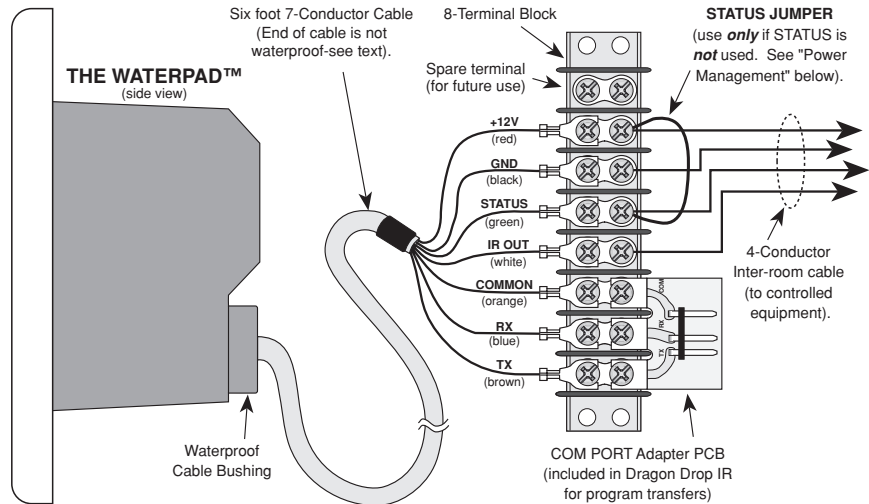
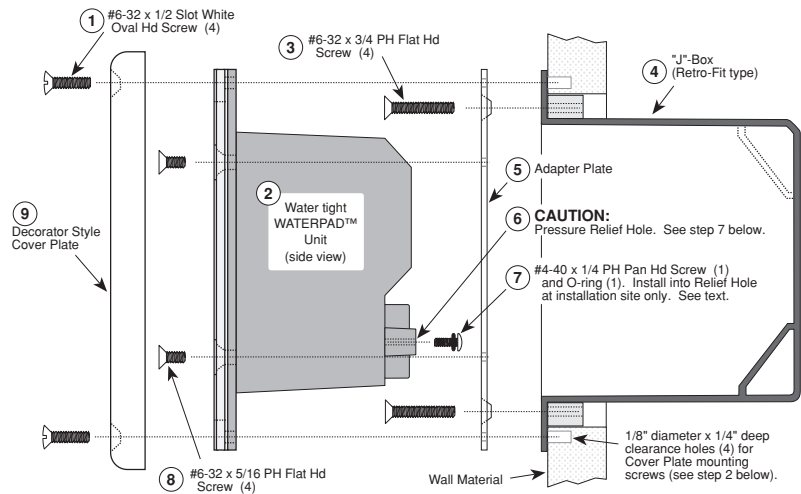

**Fig. 4** Icon Application
Fig. 6 Mounting the Waterpad into a Retrofit type J-box.
9. If the system functions correctly, the button icons can then be applied, as shown in Fig. 4. Finally, the Waterpad is mounted to the wall as shown in Fig. 6, 7, 8 & 9.
2. Align it very carefully within the rectangular embossed button area on the membrane of the Waterpad and press it into place. See **Fig. 4**.
To mount the Waterpad using a retrofit J-box, refer to Fig. 6 and proceed as follows:
1. Temporarily mount or hold the J-box ④ to the wall opening.
2. Using the Adapter Plate ⑤ (supplied) as a template, mark, then drill four 1/8" x 1/4" holes in the wall material to allow clearance for the ends of the #6-32 x 1/2" cover plate screws ①. This allows the cover plate to be pulled down flush to the wall in step 9. See Figs. 6 & 8.
3. Thread the 6-foot cable from the Waterpad through the Adapter Plate ⑤ and through a knockout hole in the back of the J-box ④.
5. Attach the J-box ④ to the wall.
6. Attach the Adapter Plate ⑤ to the J-box ④ using the four #6-32 x 3/4" Flat Hd screws ③ (supplied).
7. Install the #4-40 x 1/4" Pan Hd screw and O-ring ⑦ (supplied) into the Pressure Relief Hole ⑥. Tighten until you see some compression of the O-ring.
**CAUTION:** A Pressure Relief Hole ⑥ is provided to prevent the buildup of internal pressure that could damage the membrane during storage and shipping conditions. When the Waterpad is installed at the final site, however, **the screw and O-ring must be installed prior to exposure to moisture! Failure to do so will void the warranty!**
8. Using the four #6-32 x 5/16" PH Flat Hd screws ⑧ (supplied), attach the Waterpad ② to the Adapter Plate ⑤. See Figs. 6 & 7.
- The final step is to attach the Decorator Cover Plate ⑨ (supplied) to the front of the Waterpad assembly using the four #6-32 x 1/2" Slot White Oval Hd screws ① (supplied).